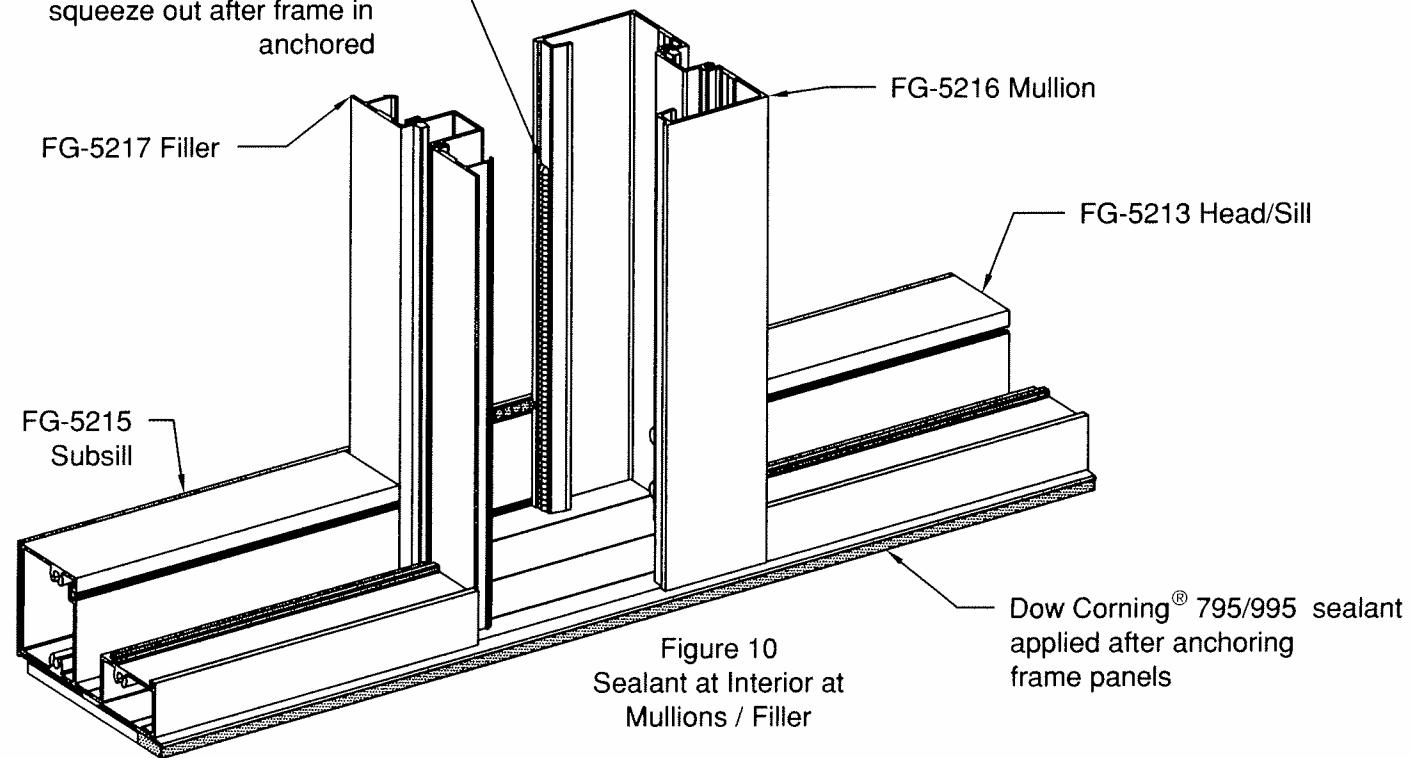

Figure 10
3.2.2 Prior to assembling each additional panel frame, apply 12" of Dow Corning® 795/995 silicone to bottom of interior snap engagement. See **Figures 10 below**.